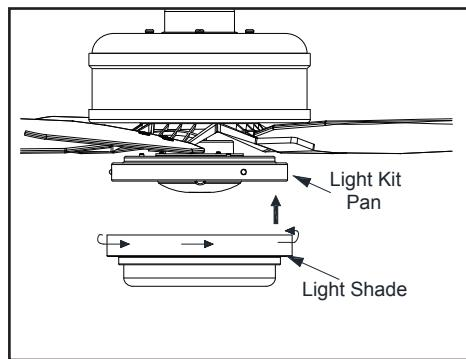

Figure 20
5. Place the light shade into the light kit pan, aligning the three flat areas on the top of the light shade with the three raised dimples in the light kit pan. Turn the light shade clockwise until it stops. (Figure 20)